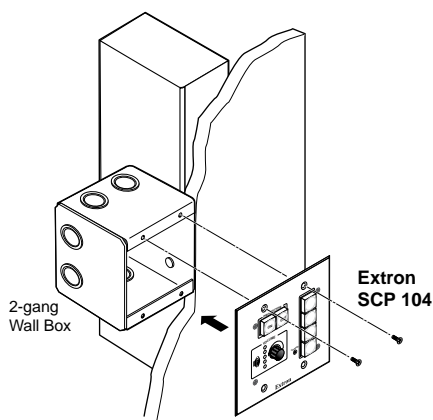

Figure 18. Mounting an SCP 104 in a Two-gang Electrical Box
5. Secure the SCP to the box with the provided machine screws. Figure 18 on the next page shows an SCP 104 mounted in a two-gang electrical box.